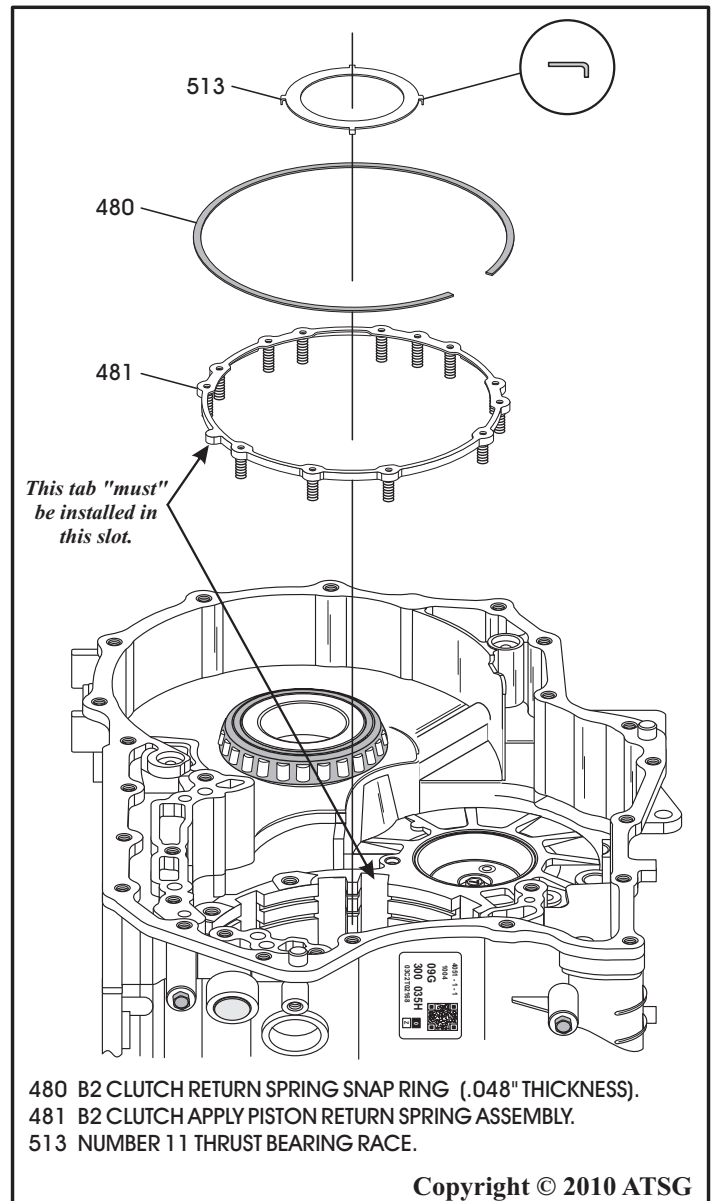

Figure 94
10. Install the B2 clutch return spring assembly, as shown in Figure 94.
Note: The return spring assembly must also be oriented properly, as shown in Figure 94.
11. Compress the return spring and install the snap ring, as shown in Figure 94, and ensure it is fully seated in the case groove.
12. Install the number 11 thrust bearing into rear of case, as shown in Figure 94, and retain with a small amount of Trans-Jel®.